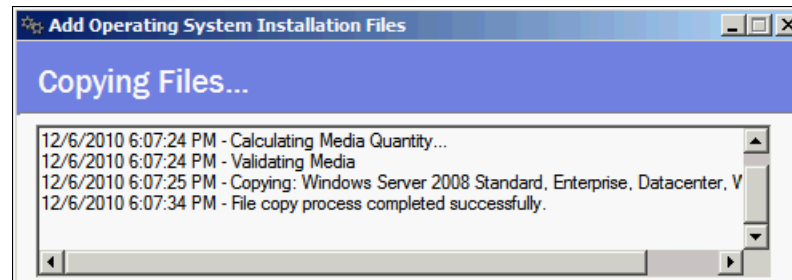

Figure 7-49 Copy process completes successfully
5. When the file copy process completes successfully, as shown in Figure 7-49, click **Finish**.